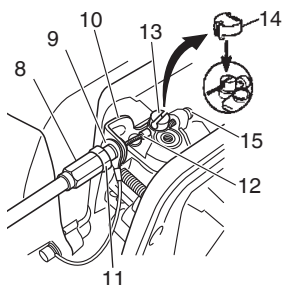

Fig. 6
Connect throttle wire end (12) to swivel (13) of carburetor and install swivel cap (14) (if so equipped) where is included in tool bag, onto swivel (13) (Fig. 6).